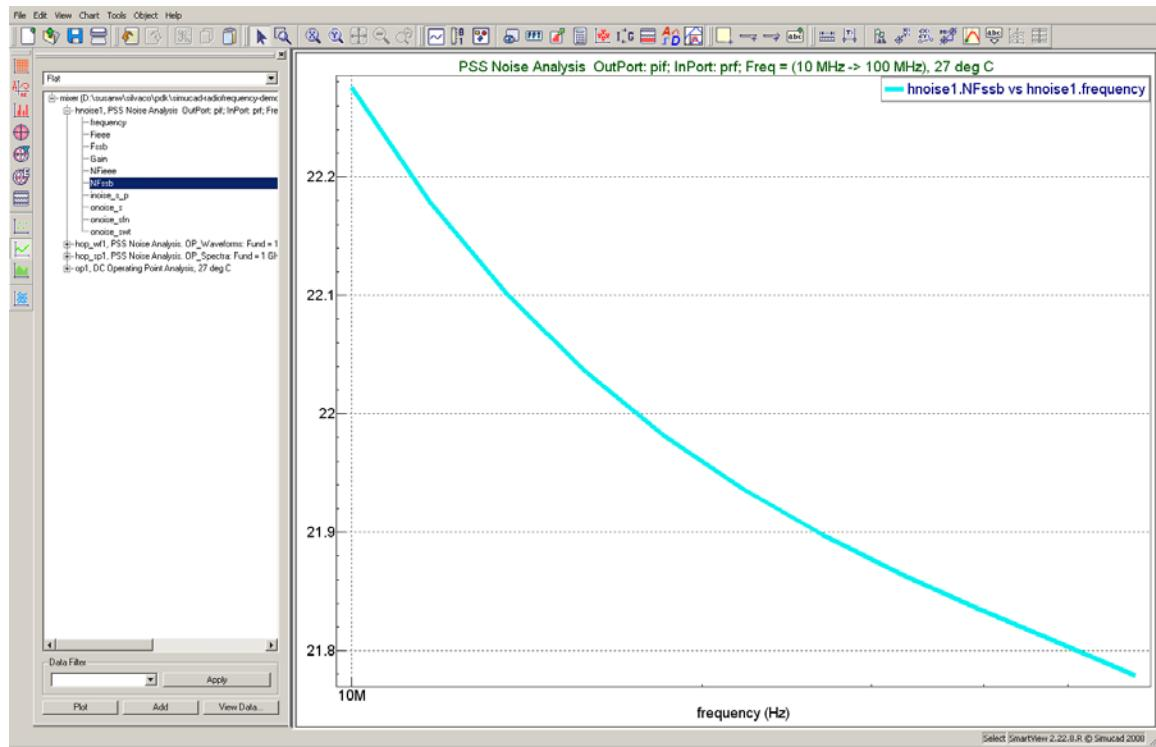

Figure 8: Noise Figure Plot
2.4.1: Open plot hnoise1, then select vector “NFssb” and click **Plot**. The noise figure plot is shown in Figure 8.